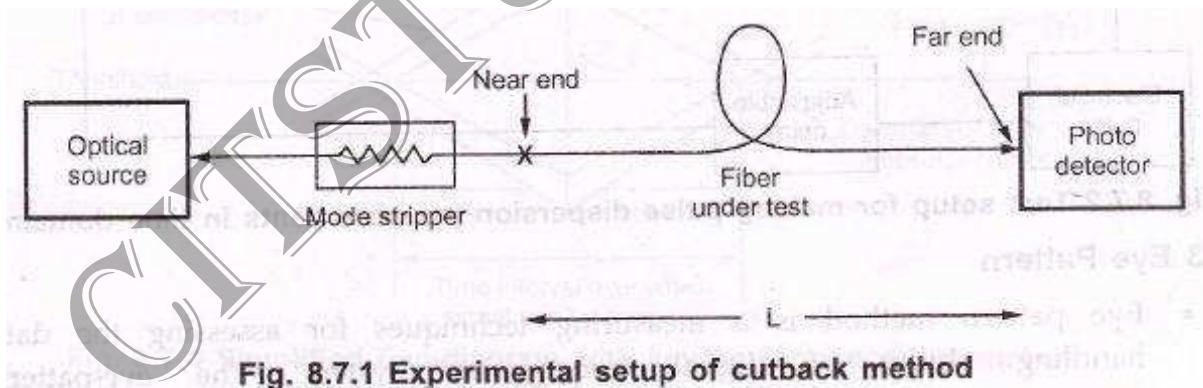

Fig. 8.7.1 Experimental setup of cutback method
- x Cutback technique is a destructive method of measuring attenuation. It requires access to both ends of fiber as shown in Fig. 8.7.1.